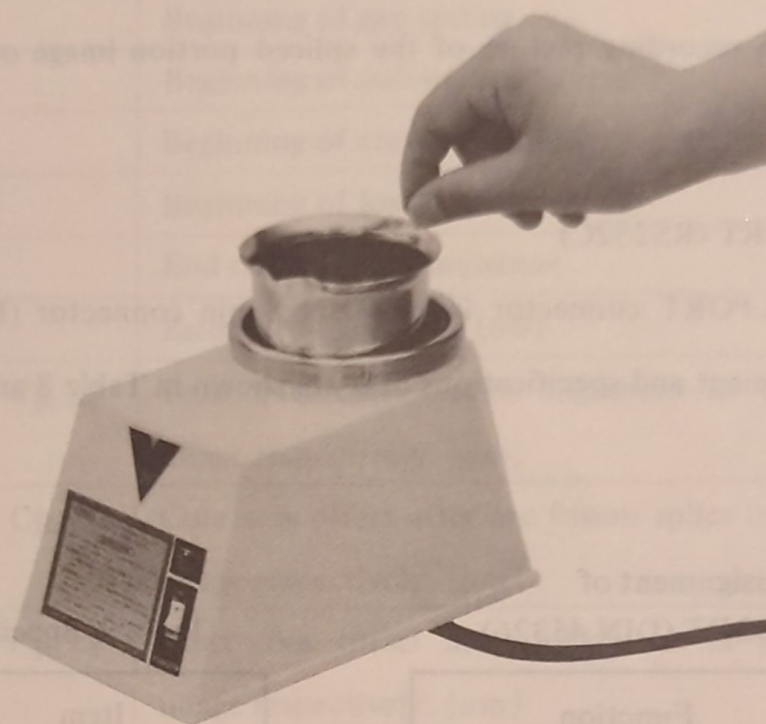

Fig. 27 Cleaning the Optical Fiber
Immense the cleaved optical fiber gently into alcohol as shown in Figure 27 for 5~10 seconds. Then turn off the power switch ④⑥ without fail.